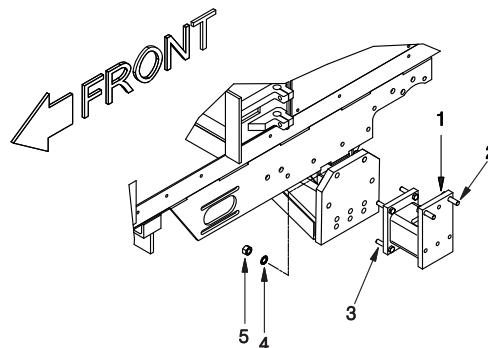
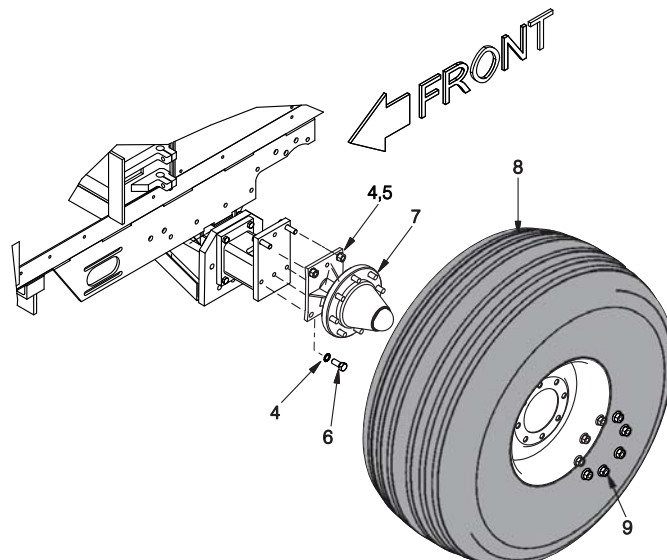

Figure 1 - Mounting Axle Extension
Figure 2 - Mounting Hub, Spindle and Tire
A. Place (5) R13806355 Bolts through Axle Extension and secure to axle using (5) WES0006250 star washers and 217847 nuts as shown in Figure 1. Torque all nuts and bolts as per torque chart on page 1.
B. Place (3) 00271558 Bolts and 3 WES0006250 star washers on the Hub and Spindle and thread the bolts into the axle extension as shown in Figure 1. Place (2) R13807958 Bolts through the extension assembly and spindle as shown in Figure 2. Place the remaining nuts and star washers. Mount the tire with the valve stem pointing to the inside of the baler. Torque all nuts and bolts as per torque chart on page 1.